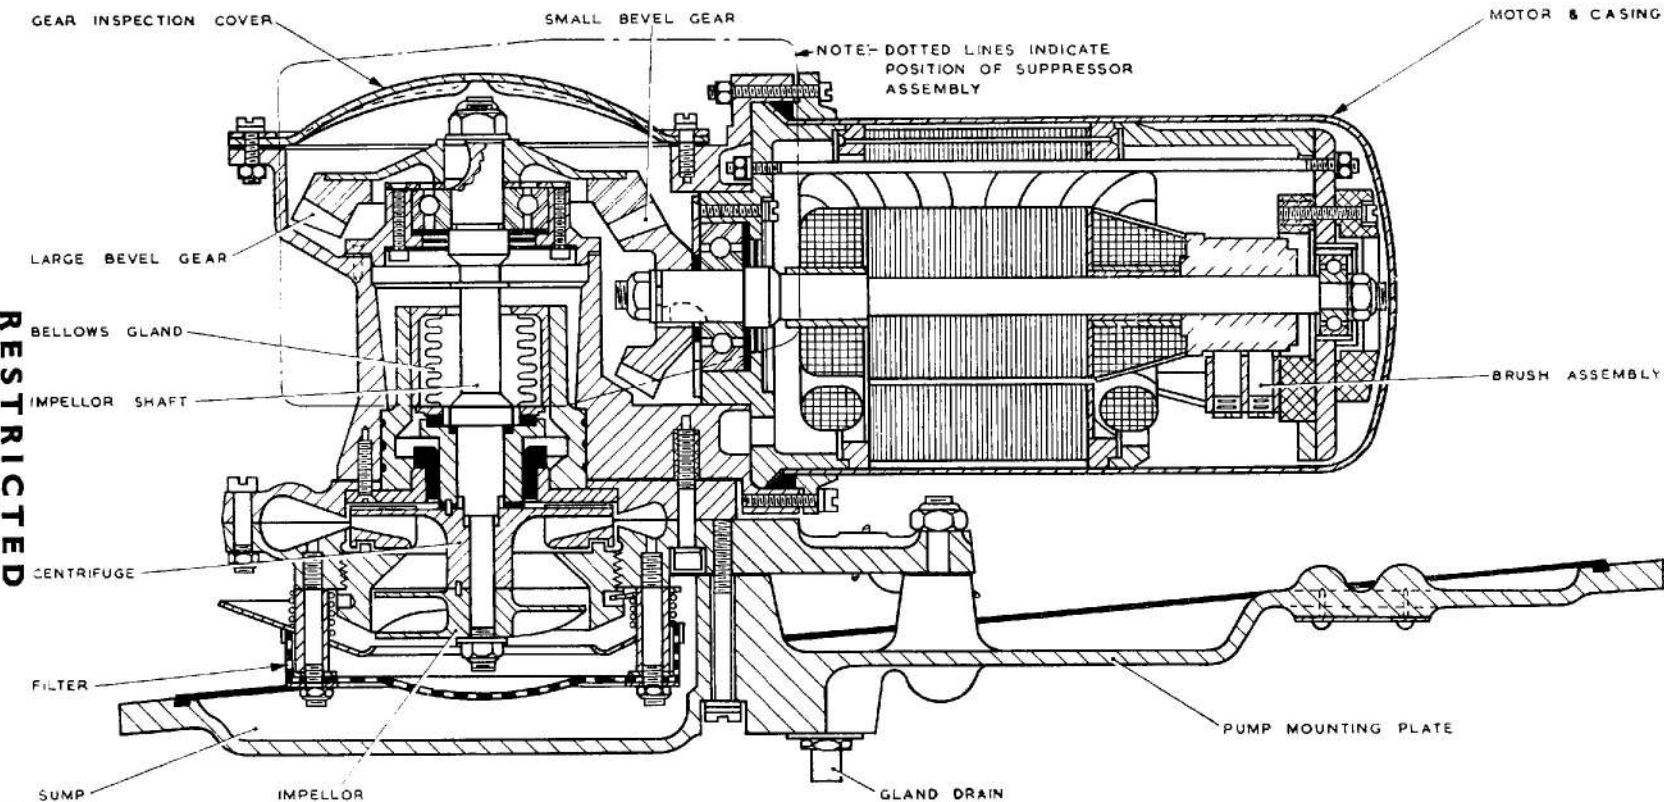
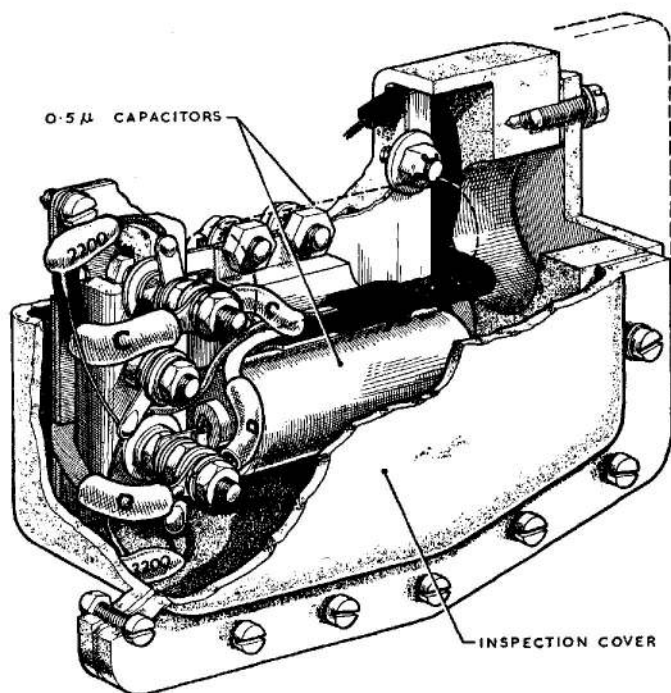

Fig. 2. Sectional view of SPE 807, Mk. 2 fuel pump
Fig. 3. Sectional view of suppressor assembly
**3.** The motor of the pump is a totally enclosed, compound wound, two-pole machine, provided with a suppressor unit, comprising two 0.5 microfarad capacitors for radio noise suppression (*fig. 3*). Under normal operating conditions, the motor speed is 9,750 r.p.m., with a current consumption of 2.5 amp.
**6.** Fitted in a recess at the side of the pump body is a suppressor assembly (*fig. 3*), for radio noise suppression; its position relative to the pump is shown as dotted lines (*fig. 2*). The suppressor assembly comprises two 0.5 microfarad capacitors; an inspection cover provides easy access to the electrical connections.